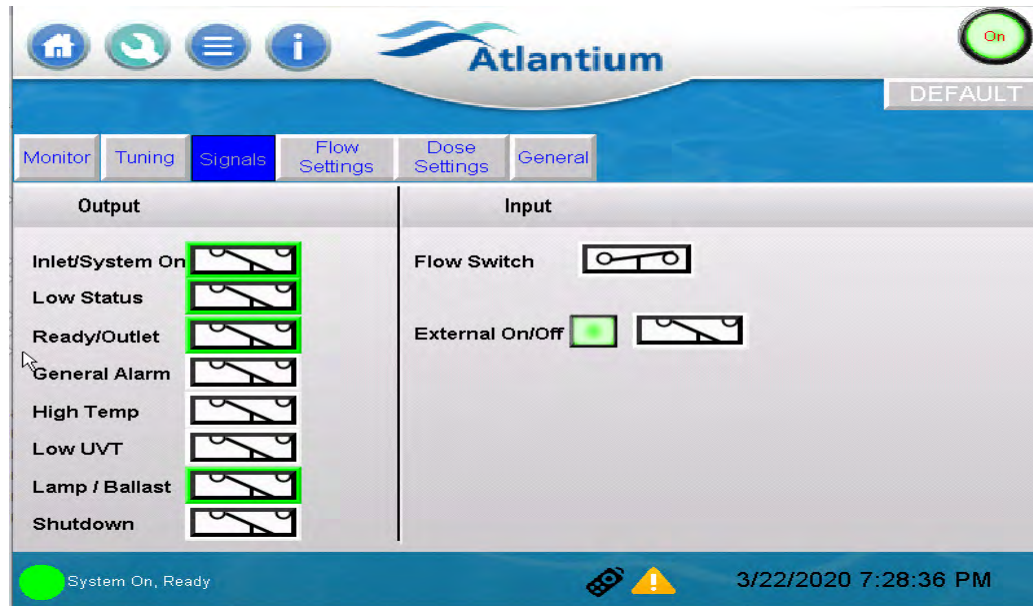

Figure 7-5: Signals Tab on Settings Screen
Ignition Timeout	Time interval [1-30 min] during which system attempts to ignite lamps following switch on. This interval starts at end of Hot Ignition Delay. 1 If one or more lamp(s) fail(s) to ignite during Ignition Timeout interval, ignition attempt stops and lamp ignition fault appears: 21 - ignition failed - lamp not ignited/gone out lamp number 3 2 The faulty lamp is disabled and appears in red on Monitor screen (see Figure 7-10 on page 76).  3 The Lamp/Ballast fault goes active - green outline (see Figure 7-5) Lamp / Ballast  On successful ignition of all lamps the lamp marker appears in blue and the Lamp/ Ballast fault de-activates.
The Signals tab displays the settings for the system’s dry-contact Input and Output connections: either **Normally Open (NO)** () or **Normally Closed (NC)** () see Figure 7-5 on page 69. The **green** border around the NO/NC symbol shows that the connection is active (logic = 1).